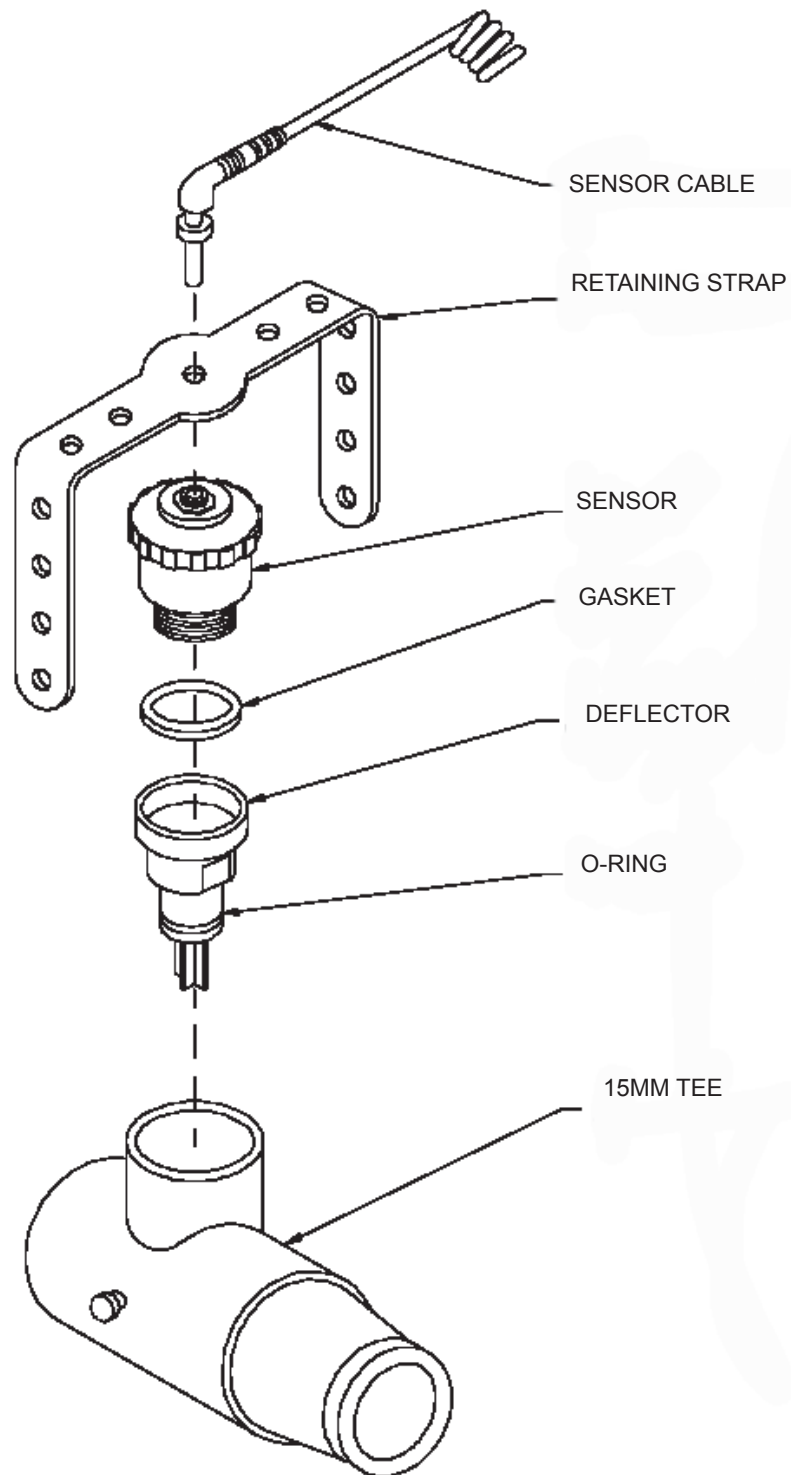

Figure 3-3
3. Firmly insert the sensor (with deflector) into the tee adapter with the deflector pointing downward (Figure 3-3) to prevent moisture from condensing onto the sensor membrane (*See Appendix B, Effects of Pressure, Humidity, and Temperature*). Make sure that the sensor fits tightly into the tee adapter.
See Figure 3-3 for proper sensor and deflector assembly.